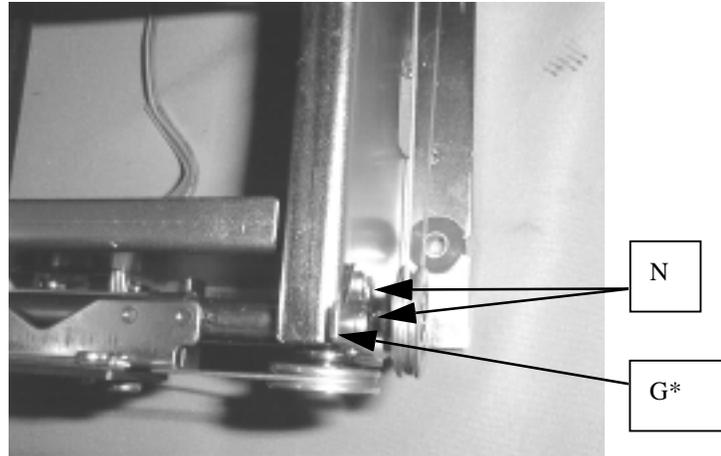

FIGURE 14-3
7. Loosen setscrews (N) , and tilt down the right and left stoppers (G*). Fig.14-3.